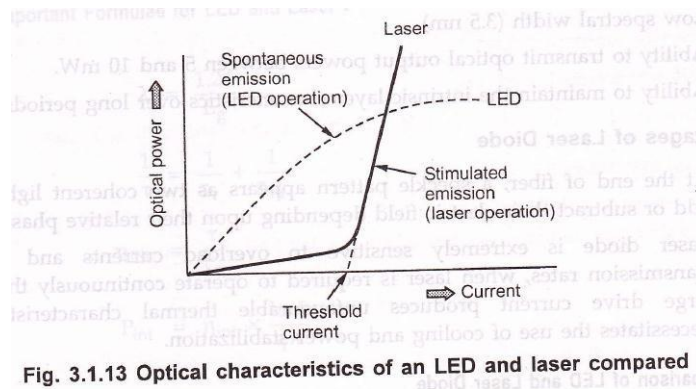

Fig. 3.1.13 Optical characteristics of an LED and laser compared
- The output of laser diode depends on the drive current passing through it. At low drive current, the laser operates as an inefficient Led, When drive current crosses threshold value, lasing action beings. Fig. 3.1.13 illustrates graph comparing optical powers of LED operation (due to spontaneous emission) and laser operation (due to stimulated emission).